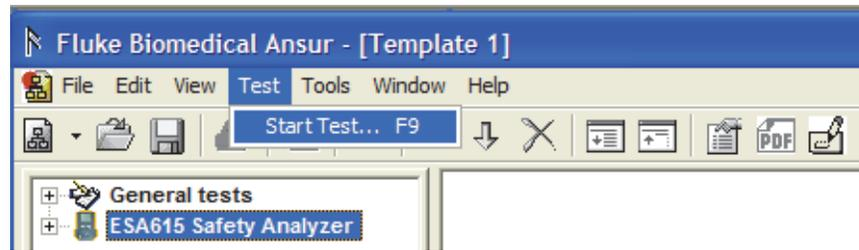

Figure 3-4. Start a Test Template
1. Click **Test | Start Test** or click the start test toolbar button (▶) to display test initialization window as shown in Figure 3-4.